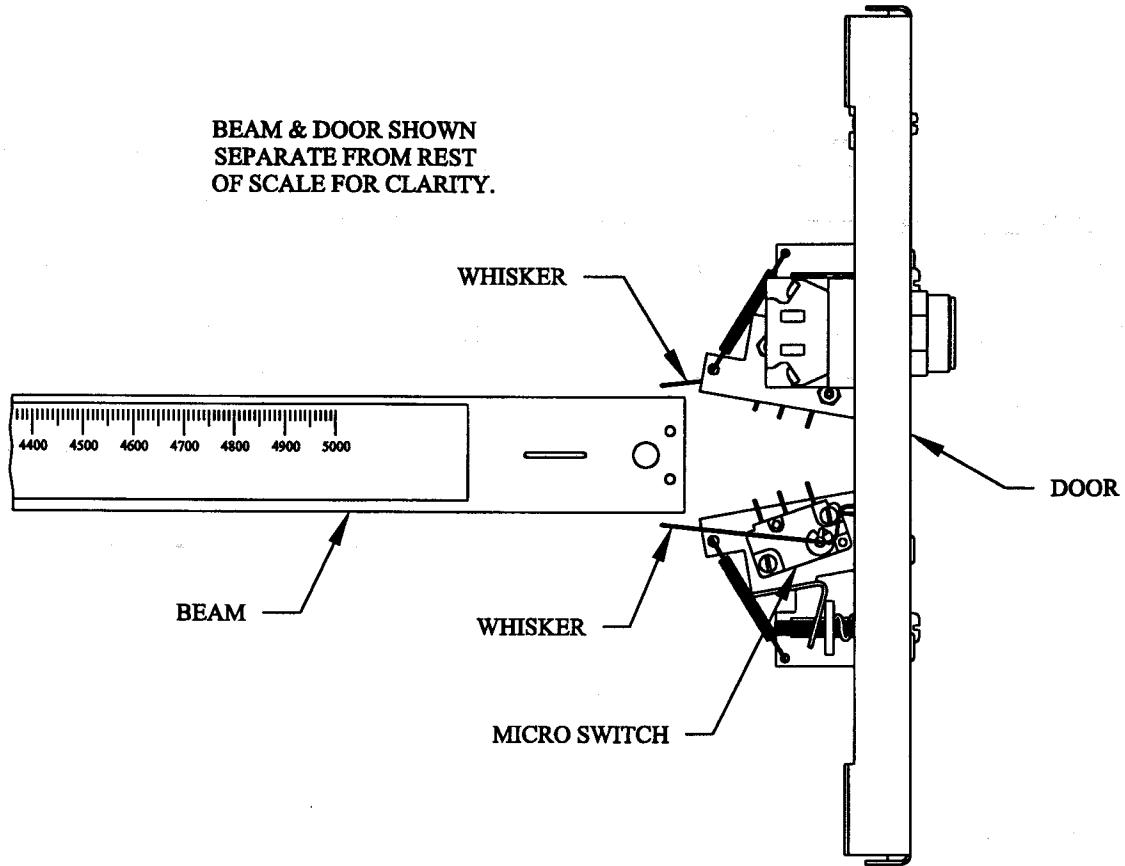
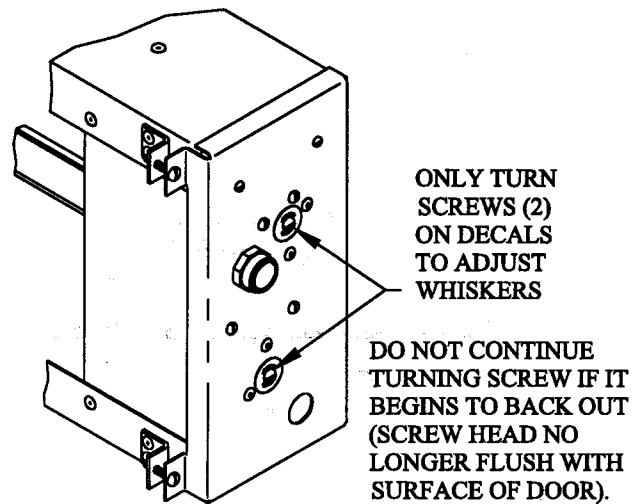
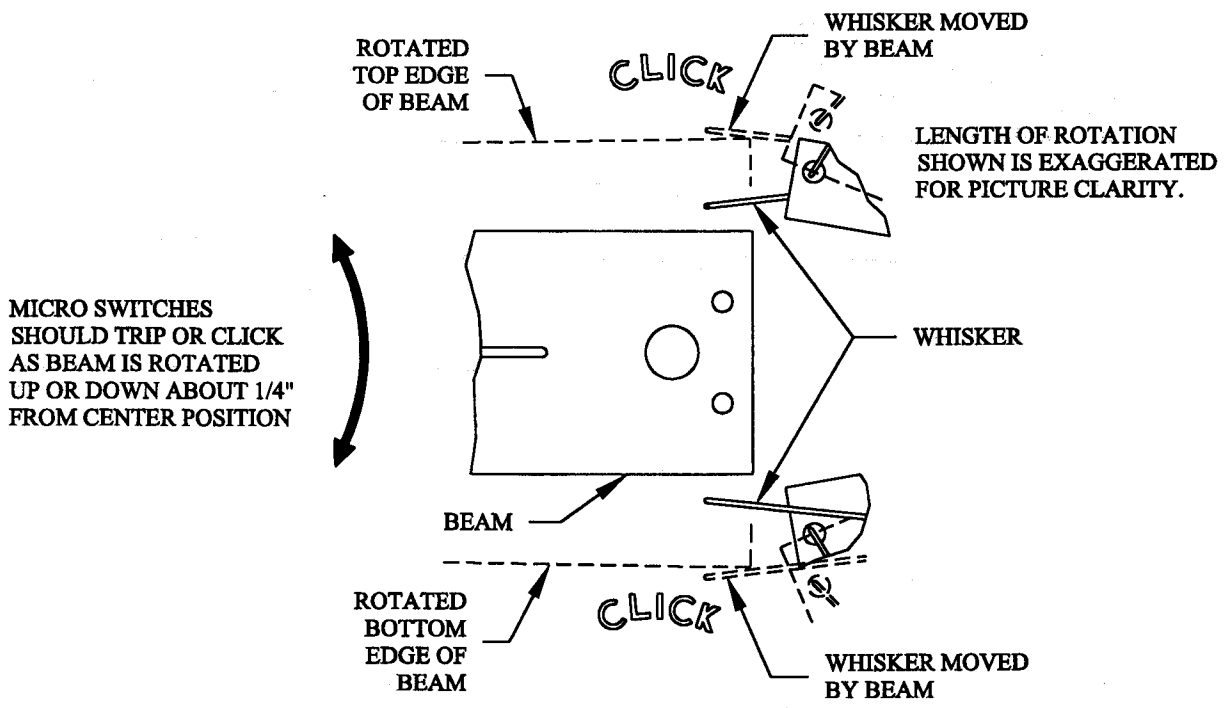
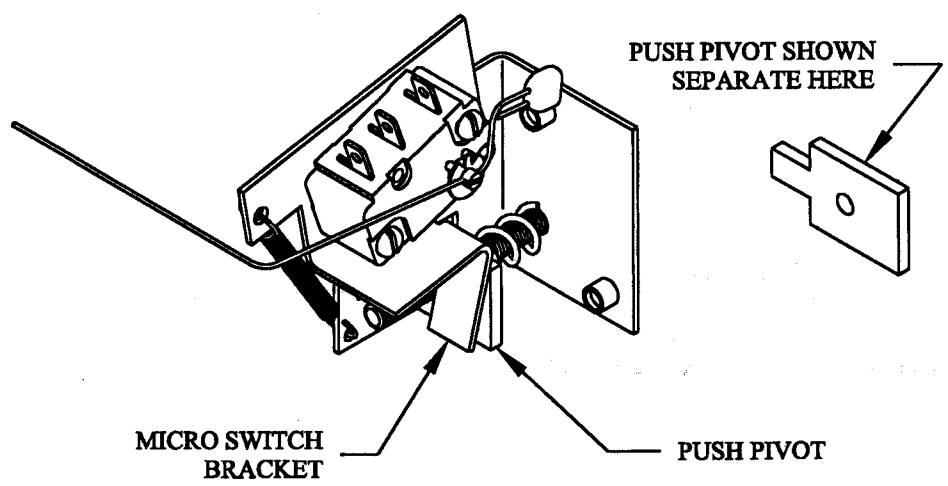

FIG. 1A
FIG. 1C
FIG. 2A
FIG. 2B
STEP 1. Check the scale installation. All parts should be free moving, square and level. Inspect beam, whiskers & micro switches; they can be seen through opening in trig loop. See Fig. 1A & 1B. If adjustment is necessary (see step 2) turn screws on door to move whiskers. Only the screws (2) on the decals will work. See Fig. 1C.
STEP 2. Check the adjustment of the micro switches. They should be set so that they trip when the beam moves either up or down approximately 1/4" from its center position. See Fig. 2A. If fill system shuts off before desired weight is in bin, turn bottom screw (with decal) counter-clockwise to correct or clockwise if too much weight goes into bin (refer back to Fig. 1C for right screws). If feed system shuts off before desired weight is distributed, turn top screw (with decal) counter-clockwise to correct or clockwise if too much feed is getting distributed. It may be possible (but unlikely) that the screw does not move the whiskers if the push pivot isn't touching the micro switch bracket. In this case, turn the screw counter-clockwise. The push pivot will eventually engage the micro switch bracket and the whisker will start moving. See Fig 2B.
- 9) Check the micro switches, if both whiskers are touching the beam at the same time they need to be adjusted, See Fig. 2A (Calibration section – pages 18-22).